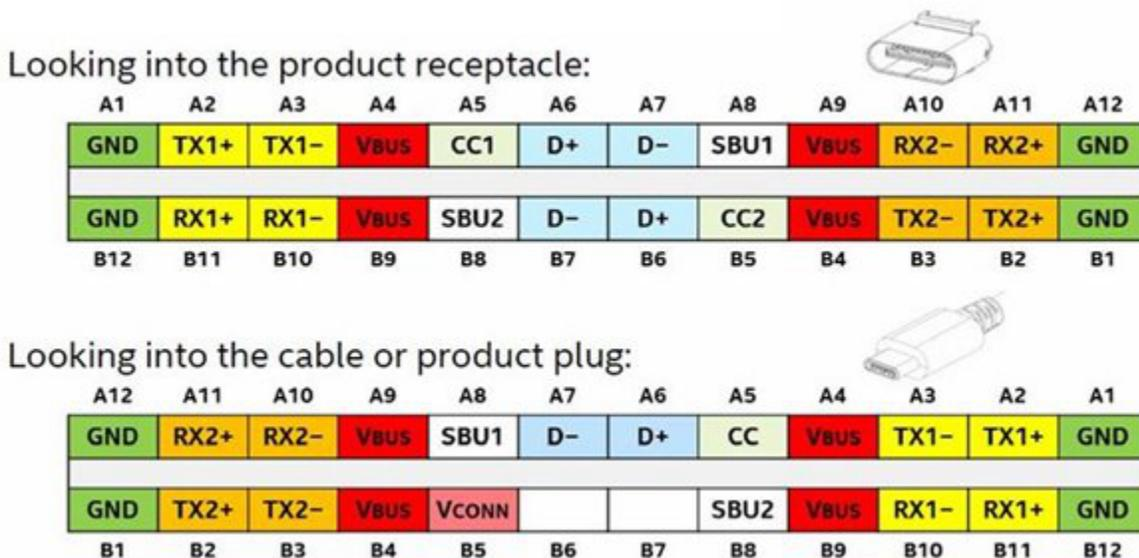

Figure 1. USB Type-C Connector Pinout
- **A small pin pitch increases risk of short circuits.** To support all of this functionality in such a small form factor, the pin pitch of USB Type-C connectors is 0.5mm, which is much smaller than the 2.5mm pin pitch in the USB Type-A connector. This tiny pin pitch increases the likelihood of a pin-to-pin short circuit. If debris becomes caught in the connector, or if the consumer pulls the connector out of the receptacle at an angle, a short could easily occur. These shorts are especially devastating for the sideband use (SBU) and configuration channel (CC) pins, which are directly adjacent to the  $V_{BUS}$  pins, shown in Figure 1, and are only tolerant to 5V. The  $V_{BUS}$  lane can deliver up to 20V and 5A for 100W fast charging power delivery, as mentioned, which could seriously damage the sensitive components connected to the SBU and CC pins.